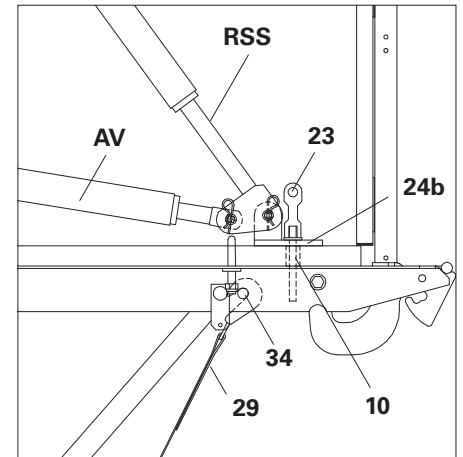

Fig. B2.04c
1. Bolt Base Plate for RSS (24b) in the rear Multi-Purpose Connector (10) with Push-Pull Prop Bolts FB (23).
2. Secure Push-Pull Prop RSS and Kicker AV with bolts and cotter pins. (Fig. B2.04c)